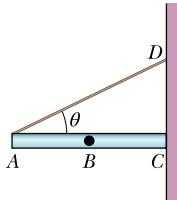

Figure 12.6
**7** In Fig. 12.6, a stationary 5 kg rod  $AC$  is held against a wall by a rope and friction between rod and wall. The uniform rod is 1 m long, and angle  $\theta = 30^\circ$ . (a) If you are to find the magnitude of the force  $T$  on the rod from the rope with a single equation, at what labeled point should a rotation axis be placed? With that choice of axis and counter-clockwise torques positive, what is the sign of (b) the torque  $\tau_w$  due to the rod's weight and (c) the torque  $\tau_r$  due to the pull on the rod by the rope? (d) Is the magnitude of  $\tau_r$  greater than, less than, or equal to the magnitude of  $\tau_w$ ?